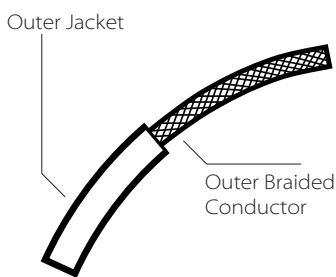

Fig. 1
1. Shut off power to the outlet box (A).
2. Determine the height at which the fixture (B) is to be hung. Adjust the steel cable (C) to the desired height. To shorten the cable, push the cable up and it will be locked automatically. To lengthen the cable, lift up on the cable and push up on the lock (D). While keeping the lock depressed, lower the cable to the desired length. Release the lock to set.
3. Use the screwdriver to loosen the set screw (E). Adjust the power cords (F) to the desired length. Tighten the set screw to set. Reserve extra cord in the canopy (G).
4. **2076/2078:** Attach the cross bar (H) to the outlet box (A), secure with outlet box screws (J), and attach security cable (K) to canopy.
2071/2072/2073/2075: Attach mounting plate (L) to the outlet box (A), secure with outlet box screws (J), and attach security cable (K) to canopy (Figure 1).
- c. Connect the fixture's ground wire (green or uncoated) to the ground outlet box wire. If no ground is present in outlet box, connect fixture's ground wire to the cross bar (H) or mounting plate (L) using the green screw (included).
- f. Carefully place connections in canopy (G).
6. **2076/2078:** Slide canopy (G) onto nipple (M) and secure with canopy nut (N).
2071/2072/2073/2075: Install canopy (G) to mounting plate (L), secure with canopy screws (P). (Figure 1)
7. Adjust the steel cable (C) or power cords (F) to level the fixture (B)
8. Slide the cable guide (Q) to desired position by using the slotted screwdriver to loosen the set screws (R). Tighten set screws to set.
1. Make a 1" slice along the length of the cord's outer jacket (Fig. 1).
2. Carefully strip the outer jacket of the cord and keep the outer braided conductors intact (Fig. 1).